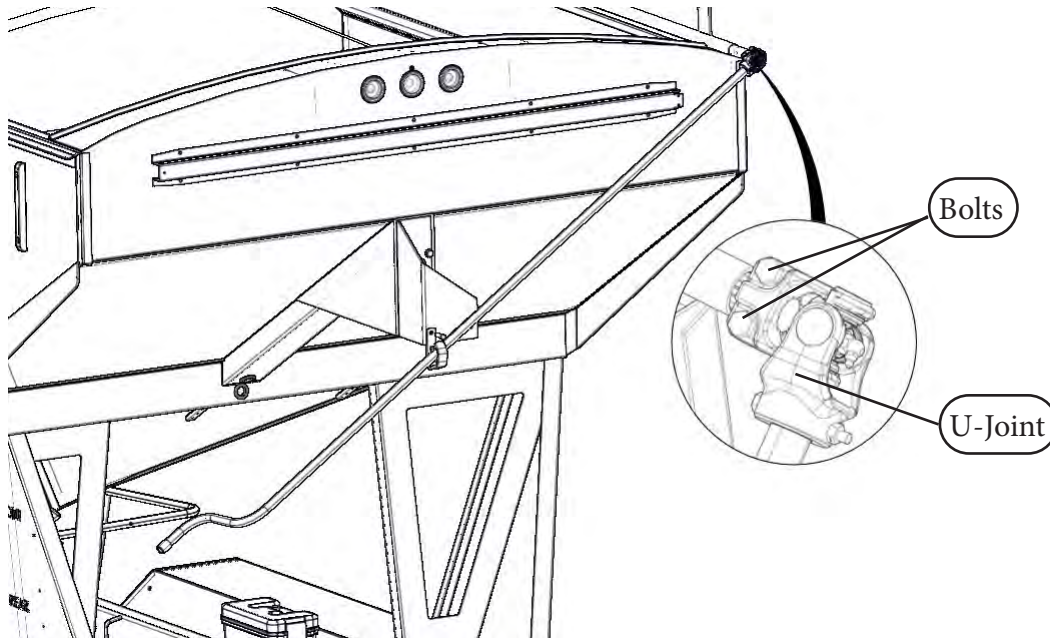

Figure 1.11
1. Fully unroll the tarp as shown in Figure 1.11.